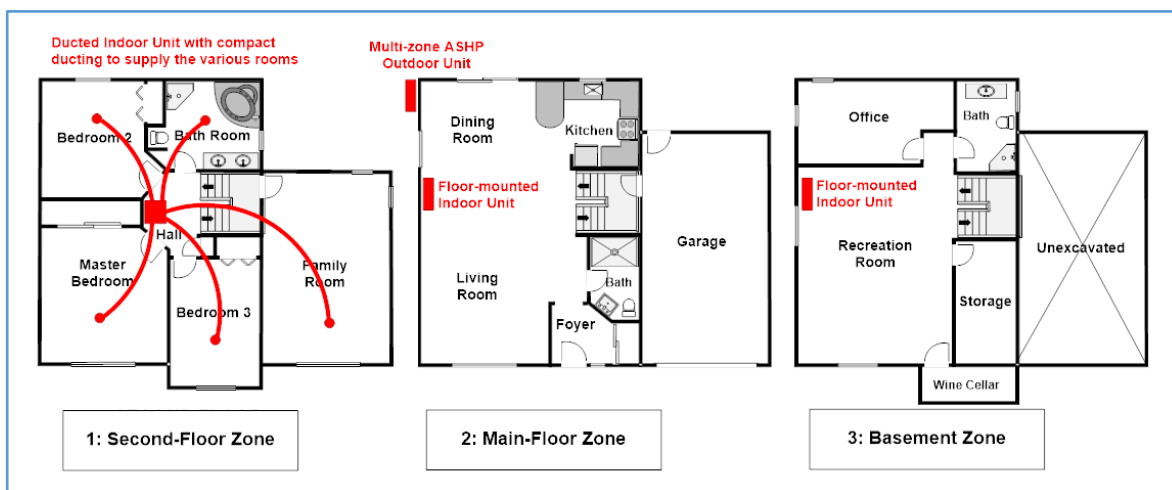

Figure 33: Floor plans for House with location and type of indoor unit shown
The indoor unit types selected to service each of the target areas are shown in Figure 33 and described below.
- The second-floor area will use a ducted unit (Option 2D) installed in the attic space above the hall and ducted to the various rooms as shown in Figure 33.
Performance curves showing maximum and minimum heating characteristics for the three candidate ASHP systems are plotted in Figure 33 versus outdoor temperature together with the whole house heating load characteristic.
Different styles and capacities of indoor units were selected to best satisfy the thermal requirements of each of the zones as described in STEP 2 and shown in Figure 33.